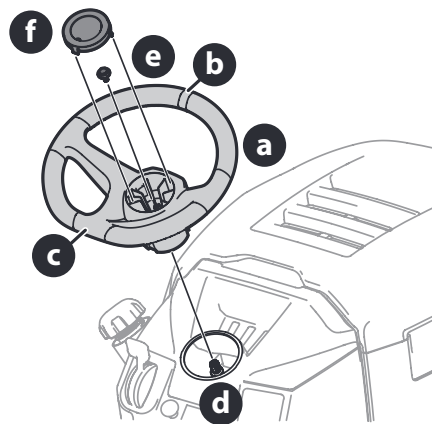

Figure 14
1. With the wheels of the tractor pointing straight forward, align the steering wheel (a) by using the center-line (b) on the front of the steering wheel (a) pointing straight ahead and the flat section (c) of the steering wheel (a) facing toward the seat, place the steering wheel (a) over the steering shaft (d) (Figure 14).
2. Secure the steering wheel (a) with the hex bolt (e) from under the steering wheel cap (f) and torque to 18-22 ft-lbs (24-30 N-m) (Figure 14).
3. Place the steering wheel cap (f) over the center of the steering wheel (a) and push downward until it "clicks" into place (Figure 14).
NOTE: The hex bolt (e) securing the steering wheel (a) has thread locker applied to it, so if it is removed, it is recommended that the hex bolt (e) be replaced or thread lock re-applied (Figure 14).